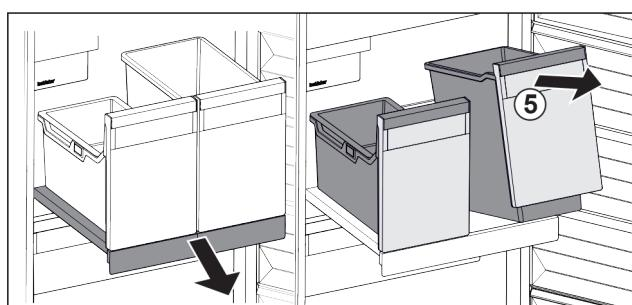

Fig. 117
- Lift the container Fig. 117 (5) at the front.